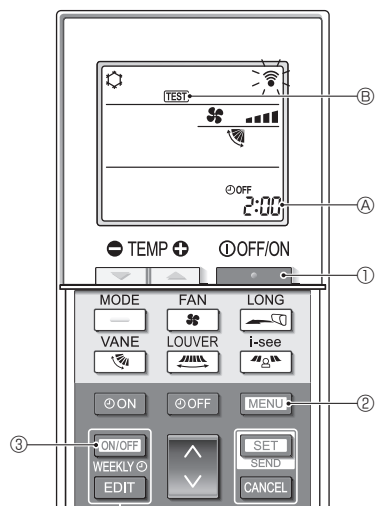

Fig. 7-4
■ Test run (Fig. 7-4)
- Press the **ON/OFF** button ① to stop the air conditioner.
- If the weekly timer is enabled (**WEEKLY** is on), press the **ON/OFF WEEKLY** button ③ to disable it (**WEEKLY** is off).
- Press the **MENU** button ② for 5 seconds.
- Press the **MENU** button ②.
- TEST** ⑥ comes on and the unit enters the test run mode.